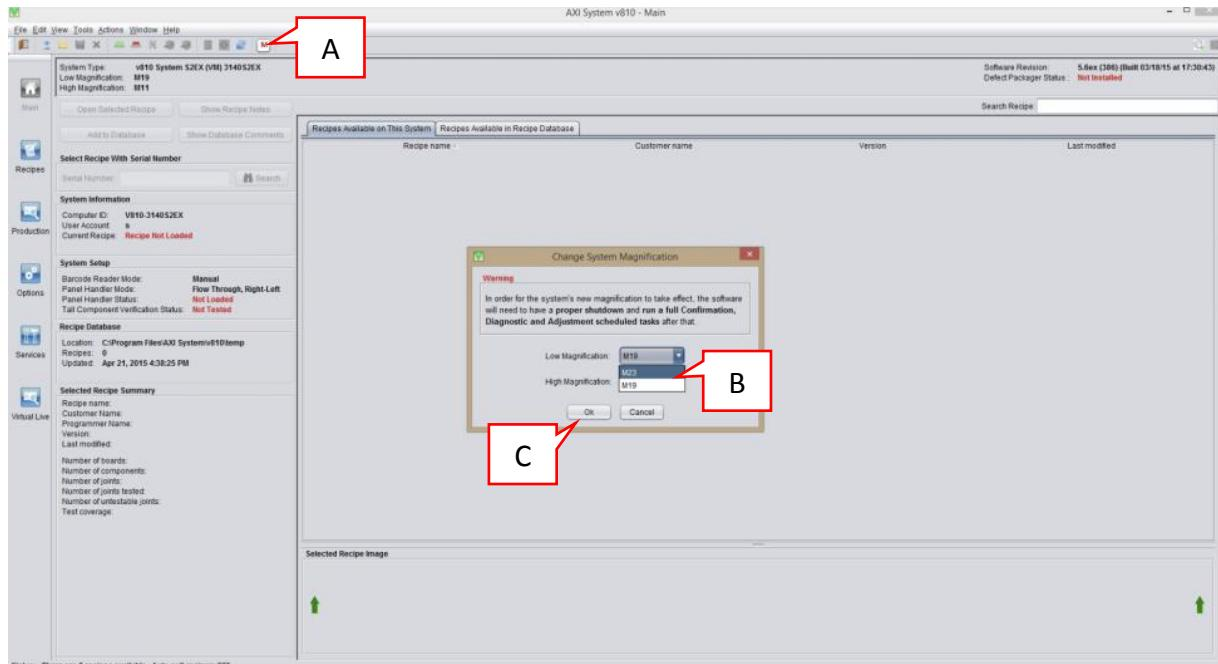

Figure 19 Magnification adjustment
19. Change setting to 23um (Low Mag) & restart GUI as shown in Figure 19.